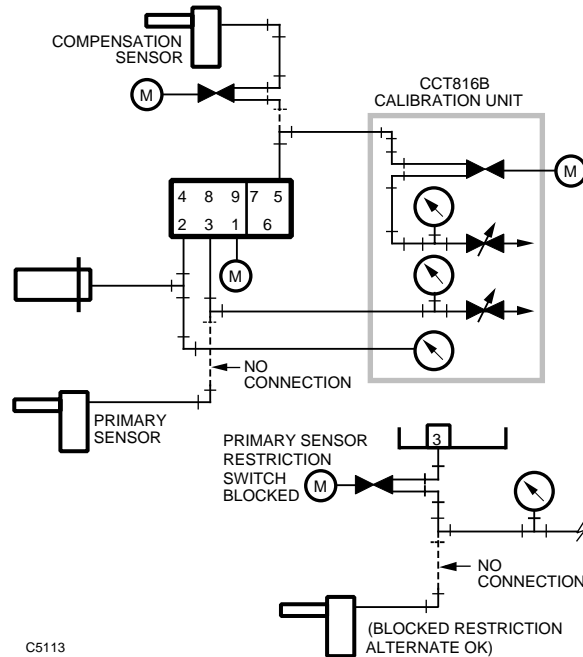

Fig. 12. RP920B authority (A_c) CCT816B Calibration Unit piping.
13. Set up the CCT816B Calibration Unit (Fig. 12) to connect to port 3 (primary sensor) and port 5 (compensation sensor).